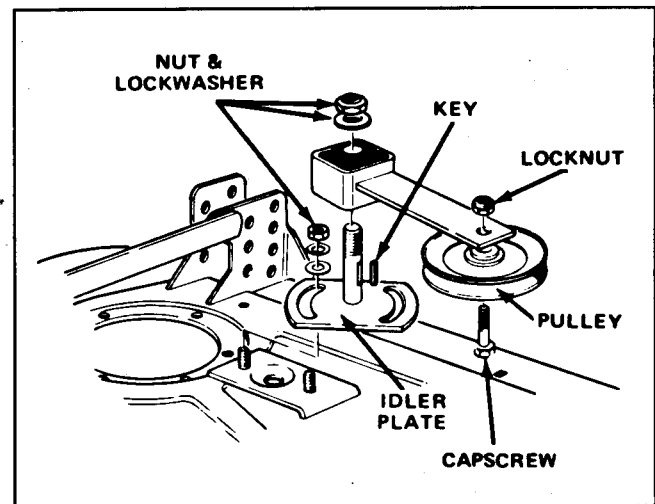

Figure 34
4. Remove the large nut and flat washer that retain the idler arm onto the idler plate shaft (Fig. 34). Slide the arm off of the shaft and account for the square key.
5. Remove the cap screw and lock washer that hold the idler pulley and arm together (Fig. 34).
NOTE: The head of the cap screw must be toward the bottom of the cutting unit when the idler assembly is installed on the idler plate shaft (Fig. 34).
8. Remove the two nuts, lock washers and flat washers that hold the slotted idler plate in place (Fig. 34).